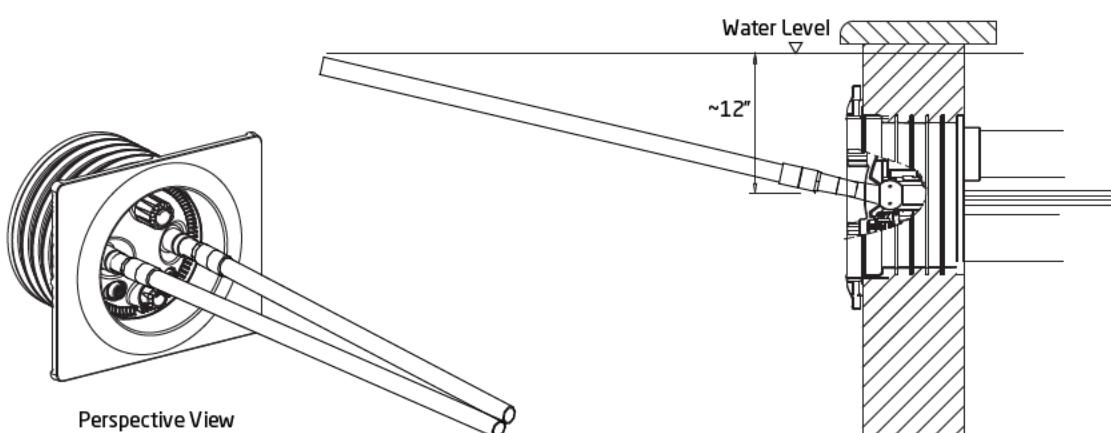

Figure 4 - BaduJet Nozzle Adjustment
3. Once that is complete, bring the blue nozzle tool up to where the end of the nozzle tool breaks the surface of the water. Then bring the two nozzles tools together to meet. (See Figure 4)